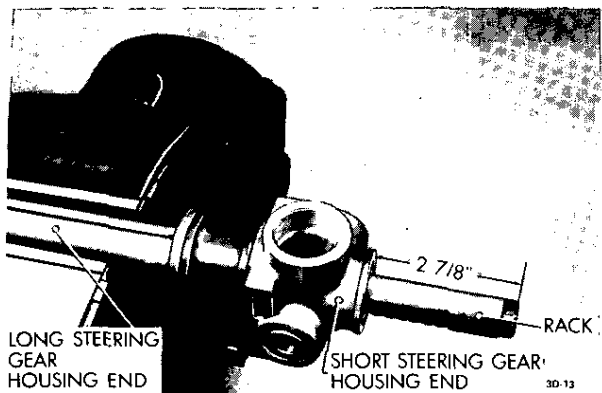

Figure 3D-13 Steering Gear Housing With Rack
2. Insert long toothless end of rack into short end of housing until rack protrudes equally (approximately 2- 7/8 inch) out of both ends of housing. See Figure 3D- 13.
Check to insure that three air channels of sintered metal bushing (See Figure 3D-17) are not obstructed by lubricant. If air channels are blocked, a vacuum condition in the bellows **may result** during operation of the gear assembly. Under such circumstances, the bellows will be drawn inward and jam into the rack teeth.